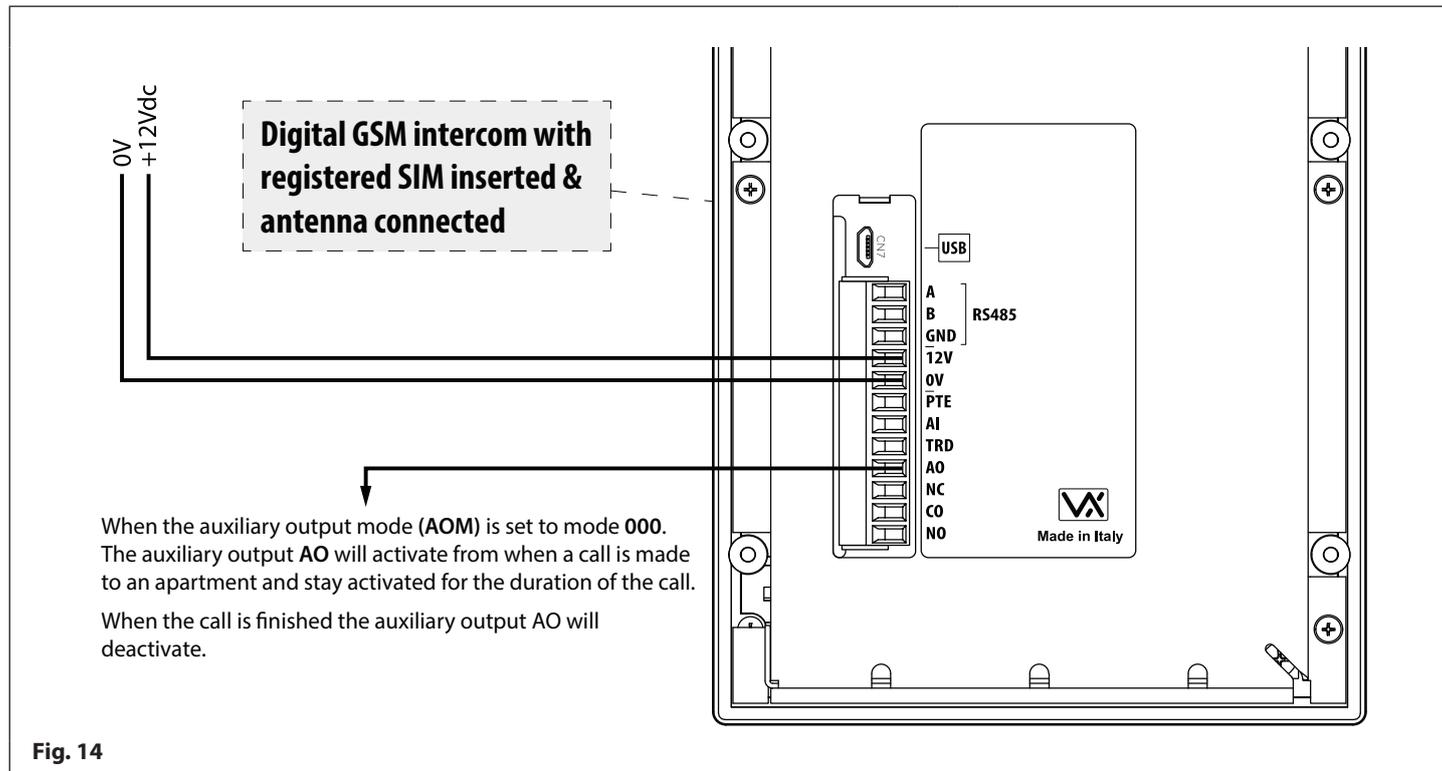

Fig. 14
**Fig.14** below shows the connection for auxiliary output AO when the AOM mode is set to 000. The auxiliary output AO will activate once a call to an apartment has been made and will stay activated for the duration of the call.